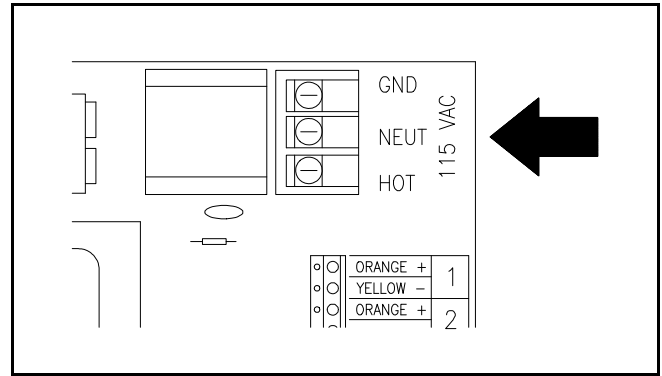

Figure 2 - 405E
4. **Console:** The console requires a dedicated 115 VAC circuit. Make sure the correct frequency and voltage are present. All 14 gauge AC wires must be in a conduit. Do not put wiring from other sources in this conduit. Use a 15 Amp breaker for the console with no other devices or outlets connected to it. See Figure 2 for connection to the interconnect board of a 405E.